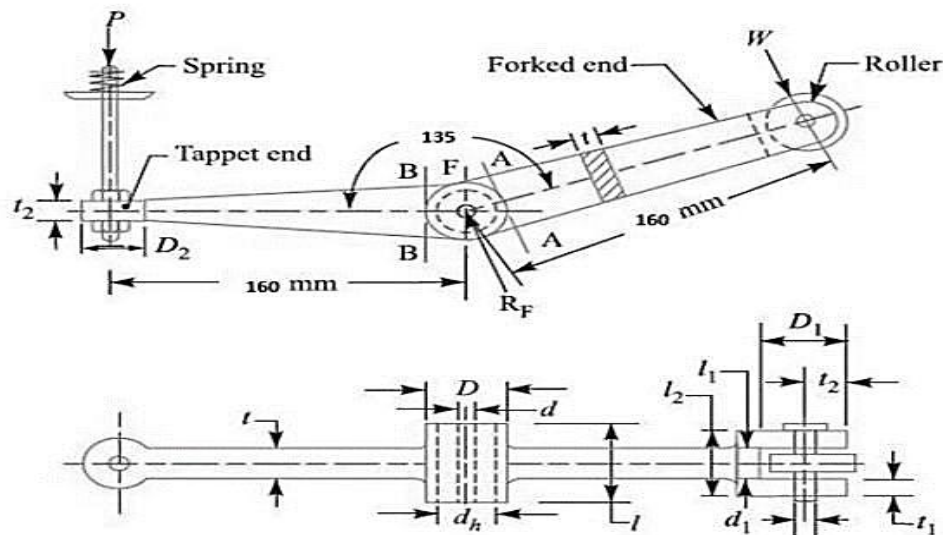

Figure. 3.2
6. Design a rocker arm lever Fig 3.2 having equal arms of 160 mm length inclined at  $135^\circ$  for an exhaust valve of a gas engine subjected to a maximum force 2500 N at roller end. Consider – I cross section  $6t \times 2.5t \times t$  size (where  $t$  = thickness of web and flange) for lever. The permissible stresses for the lever material are 80 MPa in tension and design bearing pressure is pin 6 MPa for pin.